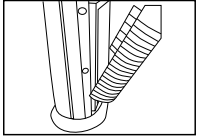

Fig. 6
2. Open the grill cover outward until the tabs at the bottom of the grill cover easily slide away from the unit. Fig. 6